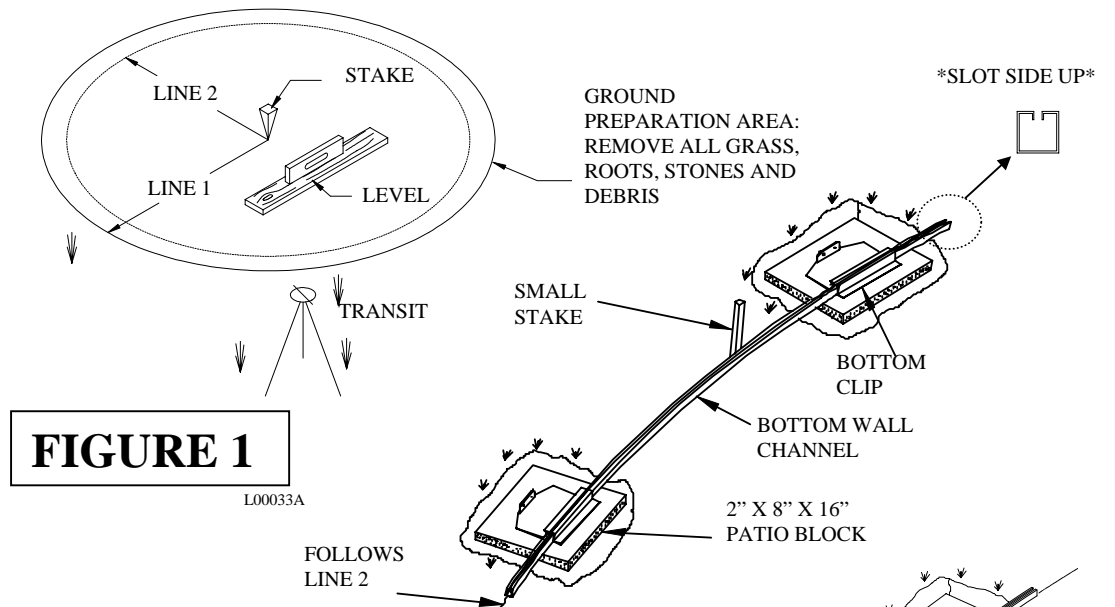

FIGURE 1
Your pool must be installed on a solid level surface. Position stakes as shown on figure 1 and use a farm level or transit to level the area shown. Remove all grass, roots and stones. Start at the lowest spot level outwards, do not fill in low spots. The area must be absolutely level. The following table refers to Figures 1 and 3 on the next page.
Step 2: See Figures 1 and 2 and table on page 3. Scribe a circle defined by line "1". Slide the wall channels into the bottom clips and position them on the circle. Place a patio block under each bottom clip. If the bottom wall channel is on soft ground, place additional blocks in a pyramidal shape under the bottom clips for support.